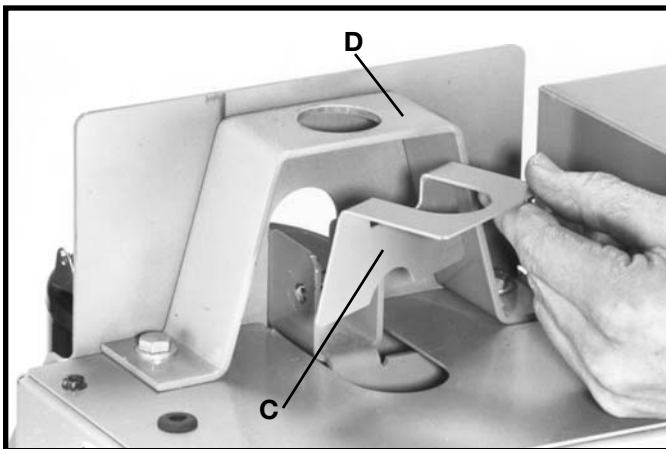

Fig. 25
2. Place guard (C) Fig. 25, under bracket (D) as shown.